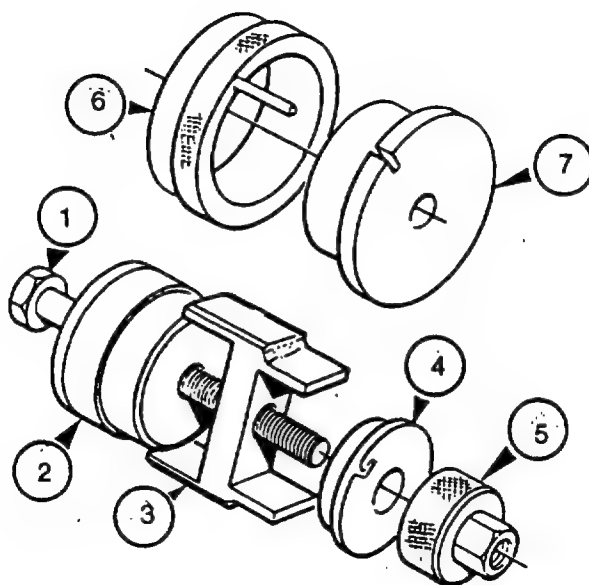

FIGURE 3-41. Main Bearing Tool
- g. Remove thrust bearing (5).
- i. Using suitable driver, drive oil seal (6) from housing (3) taking care not to damage bearing (7).
- j. Remove bearing (7) from housing (3) as follows:
- (1) Mount housing (3) in a soft-jawed vice.
- (2) Place bolt of main bearing tool (317-50111) through plain dolly, refer to **FIGURE 3-41**